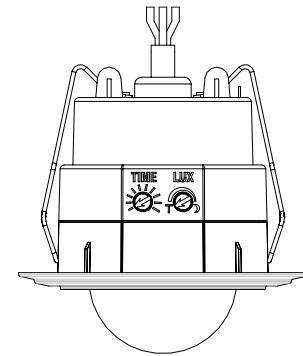

FIGURE 6
(1) TEST MODE
- Turn the Lux control and the Time control counter-clockwise to the edge-the TEST position. (FIGURE 6)